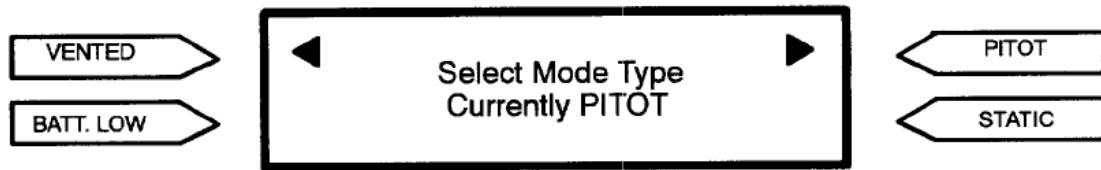

Figure 7 Selecting Operational Mode
A. When the opening screen for Main Menu 1 is displayed press the START key to initiate the Leak Test Routine. The display prompts the Operator to select the mode type and displays the current mode, e.g. 'Currently PITOT' (Figure 7).
- A. The Pressure Control Mode is used to test the accuracy of Airspeed and Altitude indicators and switches. When the opening screen for Main Menu 2 is displayed press the START key to initiate pressure control. The display prompts the Operator to select the mode type and displays the current mode, as shown in *Figure 7*.